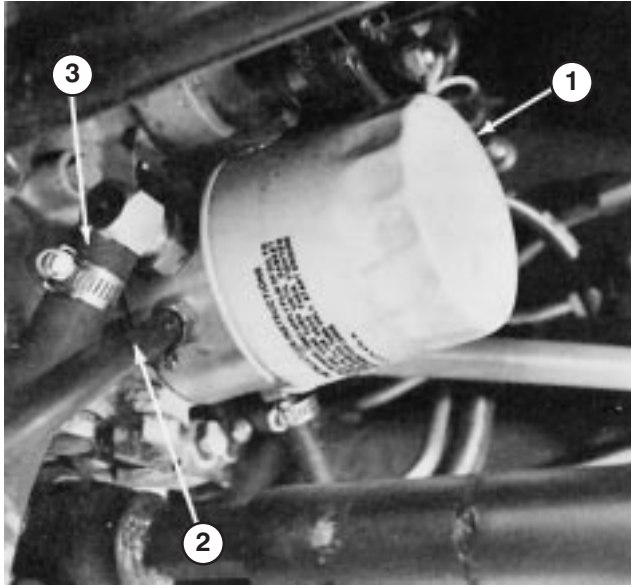

Figure 51
3. Clean the area around the hydraulic oil filter and remove the filter (Fig. 51).